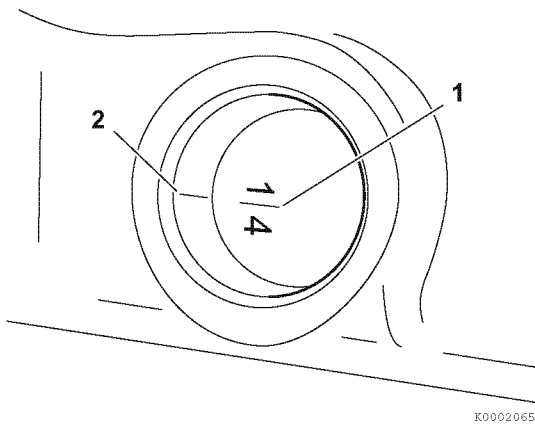

Figure 7-46
8. Highlight the timing reference mark (2, **Figure 7-46**) on the flywheel housing or engine back plate (2, **Figure 7-47**). Highlight the TDC (Top Dead Center) mark (1, **Figure 7-46**) on the flywheel.